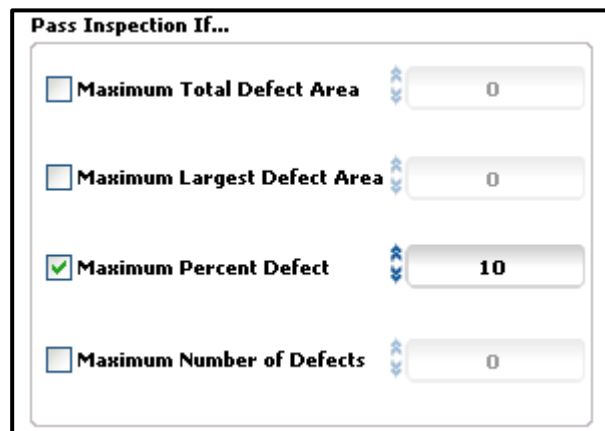

Figure 44. "Pass Inspection If..." –options.
- Set the pass inspection conditions according to the requirements [Figure 44].